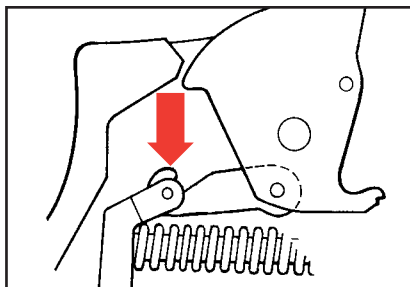

Figure 14
5. Squeeze trigger and lower the hammer into position. (See Figure 14. It shows the hook correctly engaged.) Align the hammer hole with the hole in the frame and insert the hammer pivot.